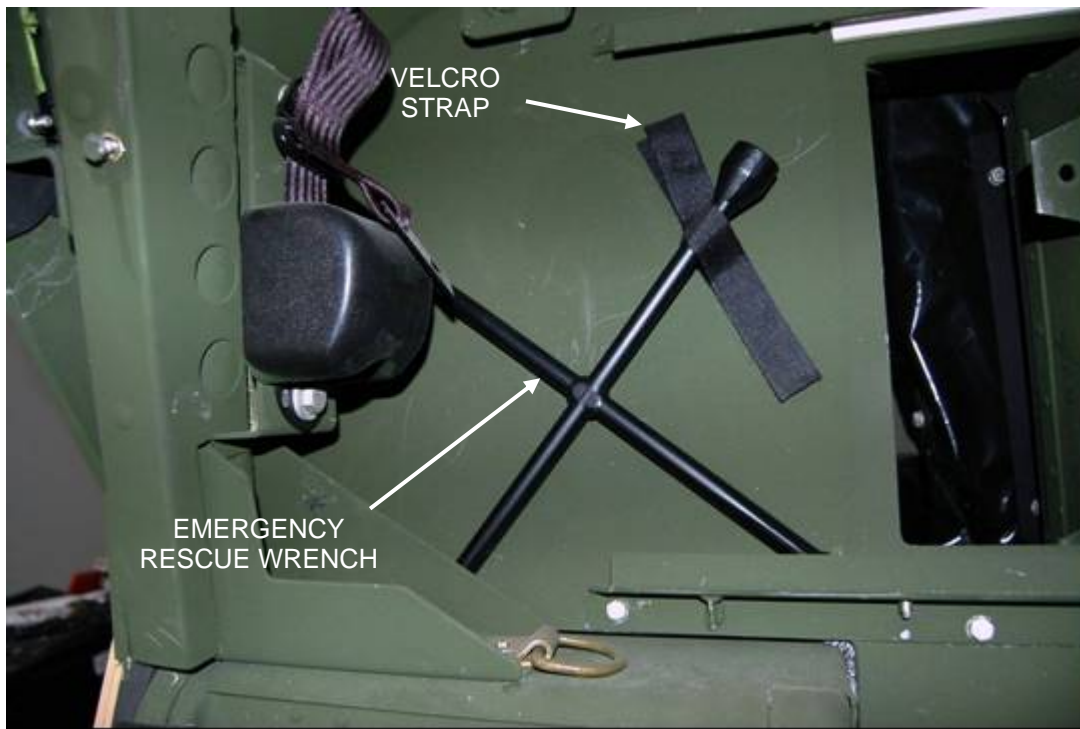

Figure 1
- 1) Detach Velcro strap to remove Emergency Rescue Wrench from stowage location. Refer to figure 1.
- 5) Return Emergency Rescue Wrench to vehicle stowage location securing with Velcro strap. Refer to figure 1.